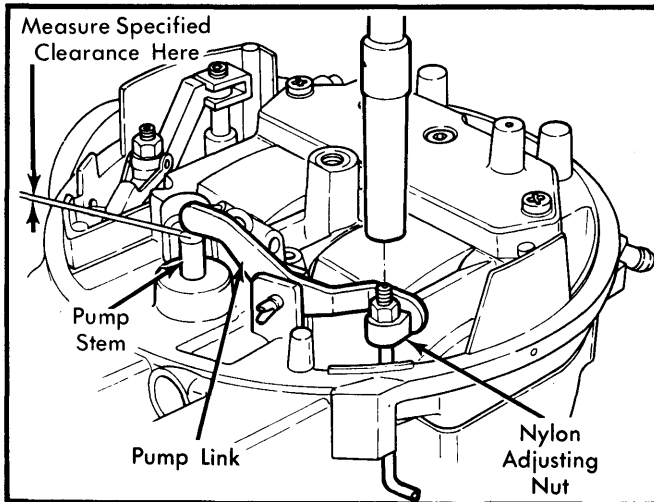

Fig. 3 Accelerator Pump Lever Lash Adjustment
- 1) Ensure curb idle speed is correctly adjusted. Measure clearance between accelerator pump stem and pump operating link with a feeler gauge. See Fig. 3.